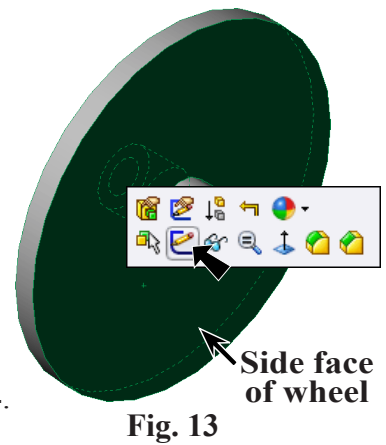
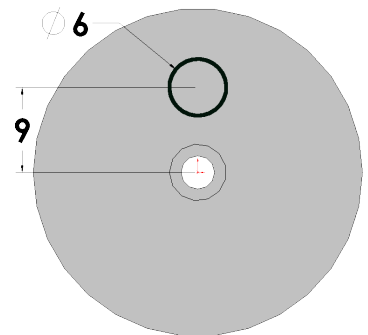

Fig. 13
Fig. 14
Step 1. Click the **side face of wheel** and click **Sketch**  on the Content menu, **Fig. 13**.
Step 3. Click **Circle**  (S) on the Sketch toolbar.
Step 4. Draw a circle for the hole directly **above** the Origin  , **Fig. 14**. Use the inferencing line, the dotted line that appears when you draw the circle.
Step 5. Click **Smart Dimension**  (S) on the Sketch toolbar.
Step 6. Dimension as shown in **Fig. 14**.